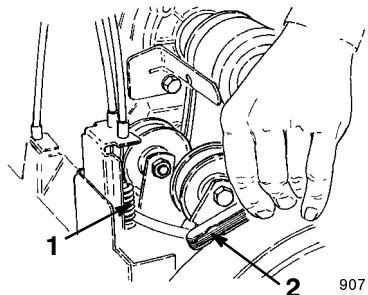

Figure 28
4. Hold the lever and insert a .010 inch (.25 mm) feeler gauge between a coil in the center of the spring (Fig. 28).